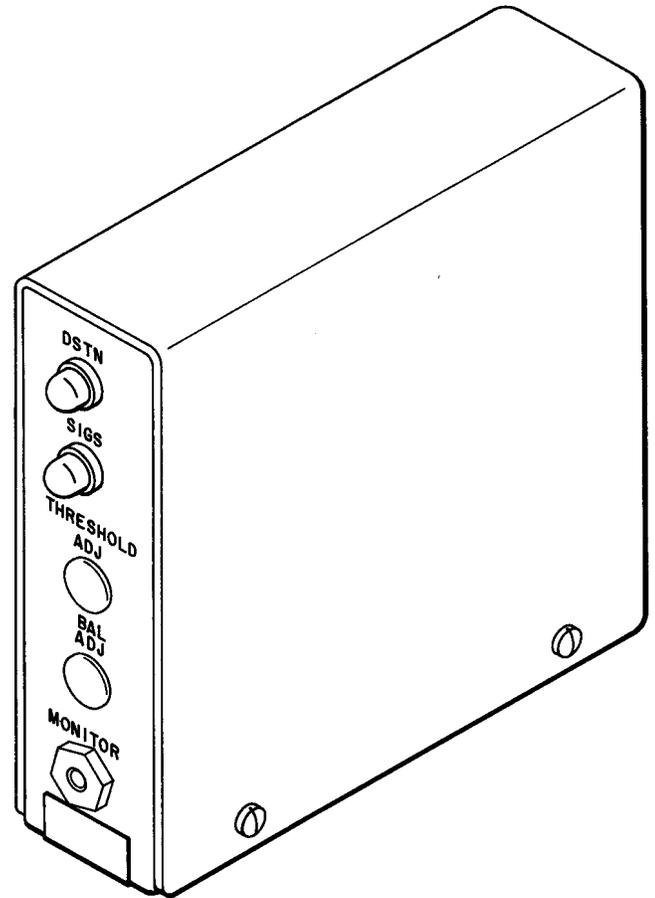

Fig. 3 — Signal Condition Indicator, SCI-6 — Front View
**4.01** The signal condition indicator uses solid state techniques throughout. The set is illustrated in Fig. 3. Its dimensions are 1-1/2 inches by 5-1/4 inches by 6-3/4 inches over all, and its weight is 2 pounds.